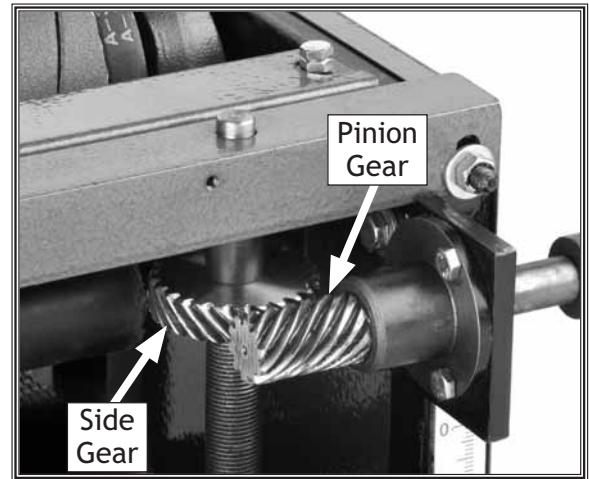

Figure 54. Worm and pinion gears meshed.
34. Before reinstalling the pinion and side gear dust cover, try raising and lowering the conveyor table with the handcrank handle. If the side gear and pinion teeth (see **Figure 54**) are not meshed, the handcrank handle will not raise the table.